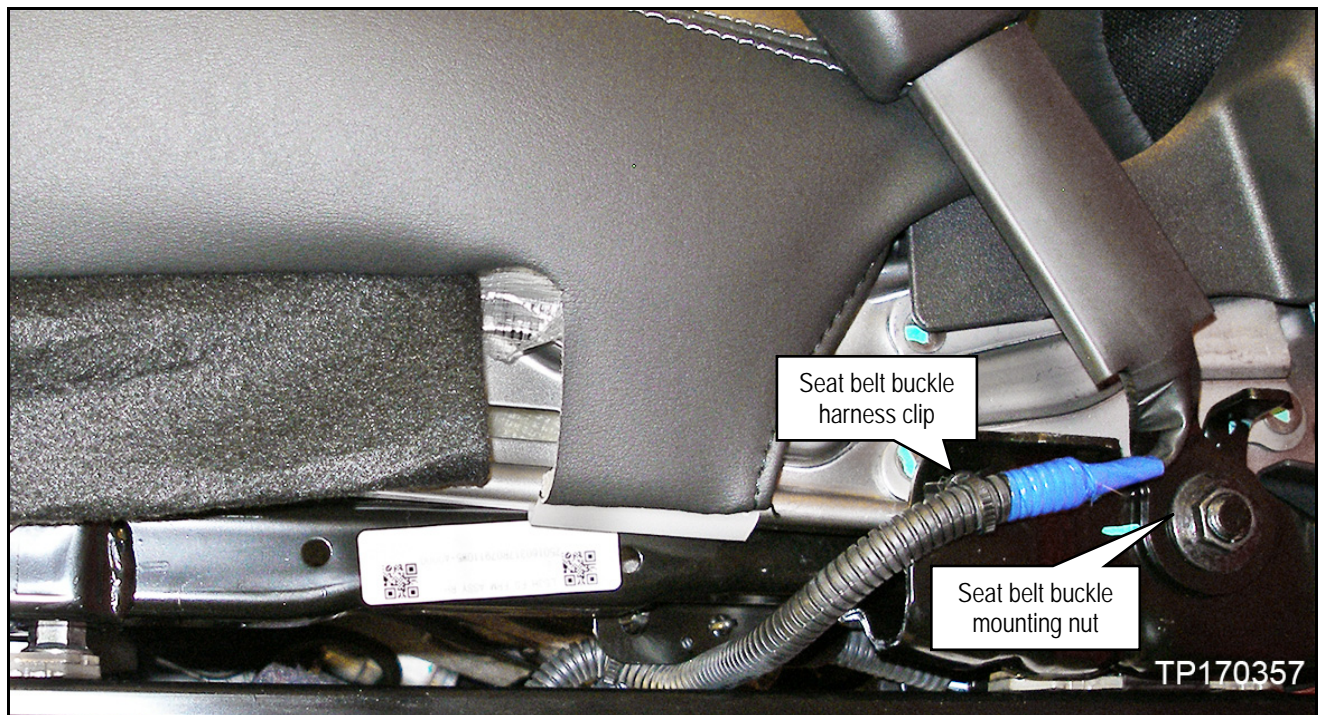

Figure 3
- The harness is secured with clips on the side of the seat frame and under the seat (see Figures 3 and 4).